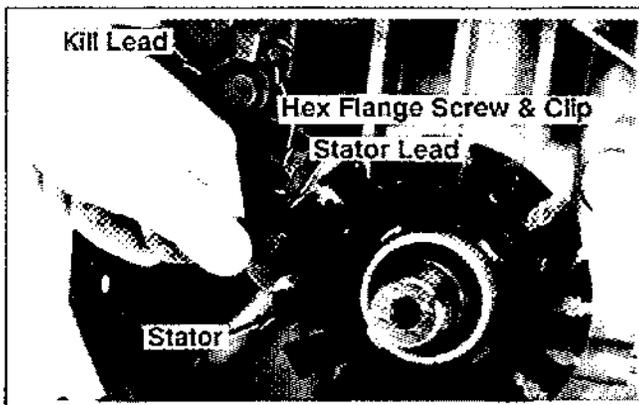

Figure 11-21. Installing Stator.
1. Position the stator leads towards the hole in the crankcase. Insert the stator leads through the hole to the outside of the crankcase. See Figure 11-21.